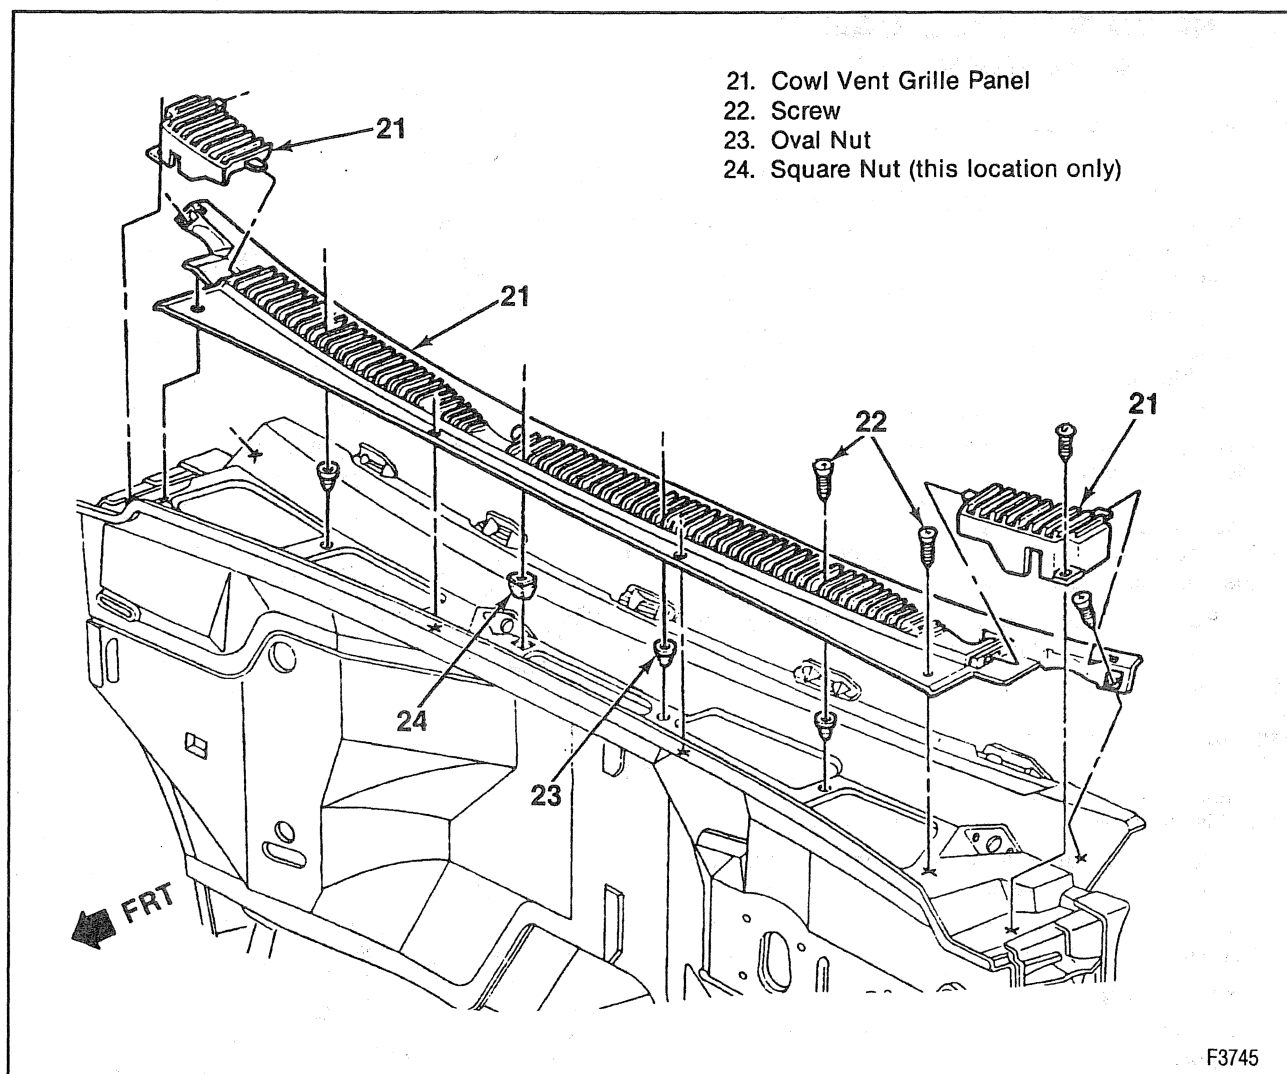

Figure 6—Cowl Vent Grille Components
Remove or Disconnect (Figure 6)
Install or Connect (Figure 6)
- Outboard cowl grille section (figure 6)